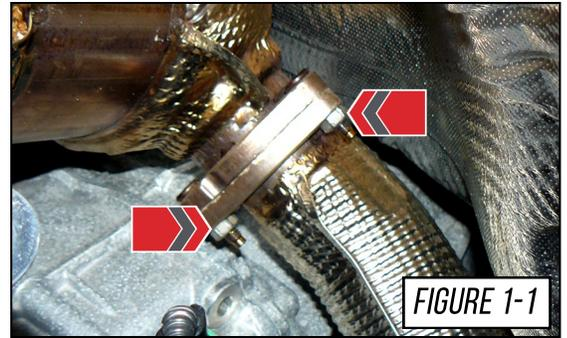

FIGURE 1-1
Start by removing the two (2) 12mm nuts on the driver side flange along with the two (2) 12mm nuts on the passenger side flange, as shown by the arrows in **Figure 1-1** and **1-2**. Four (4) of the flange nuts in total can be accessed from the engine bay; the remaining two (2) flange nuts are better accessed from the underside of the vehicle.